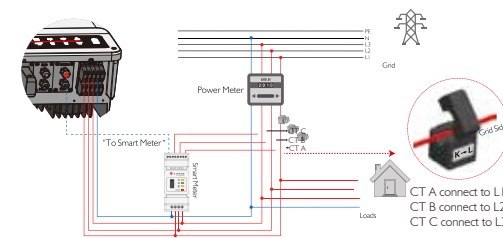

Figure 2.4.2-7
•Smart Meter & CT Connection Diagram (Figure 2.4.2-7)